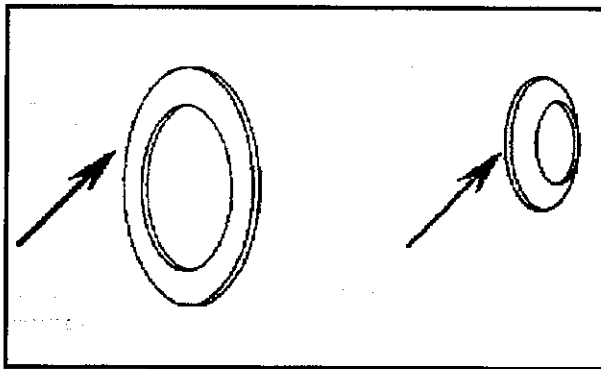

Figure 16—Thruster Inspection Areas.
1. Inspect thrust washers for scoring and cracking. (See Figure 16—Thruster Inspection Areas.)